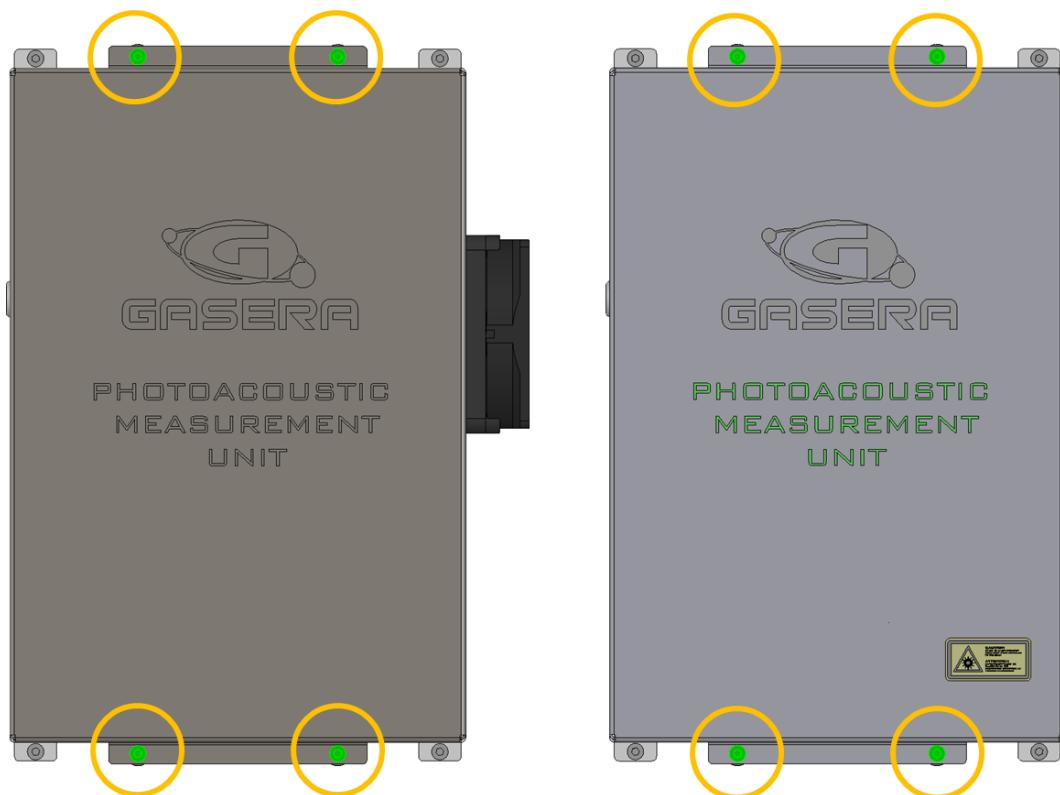

Figure 31. Examples for the location of cover screws of the MU.
3. Open 4 pcs of M4x6 mm screws and carefully lift the cover up without stressing any electrical wires or gas tubes. See Figure 31 for example of the screw location.